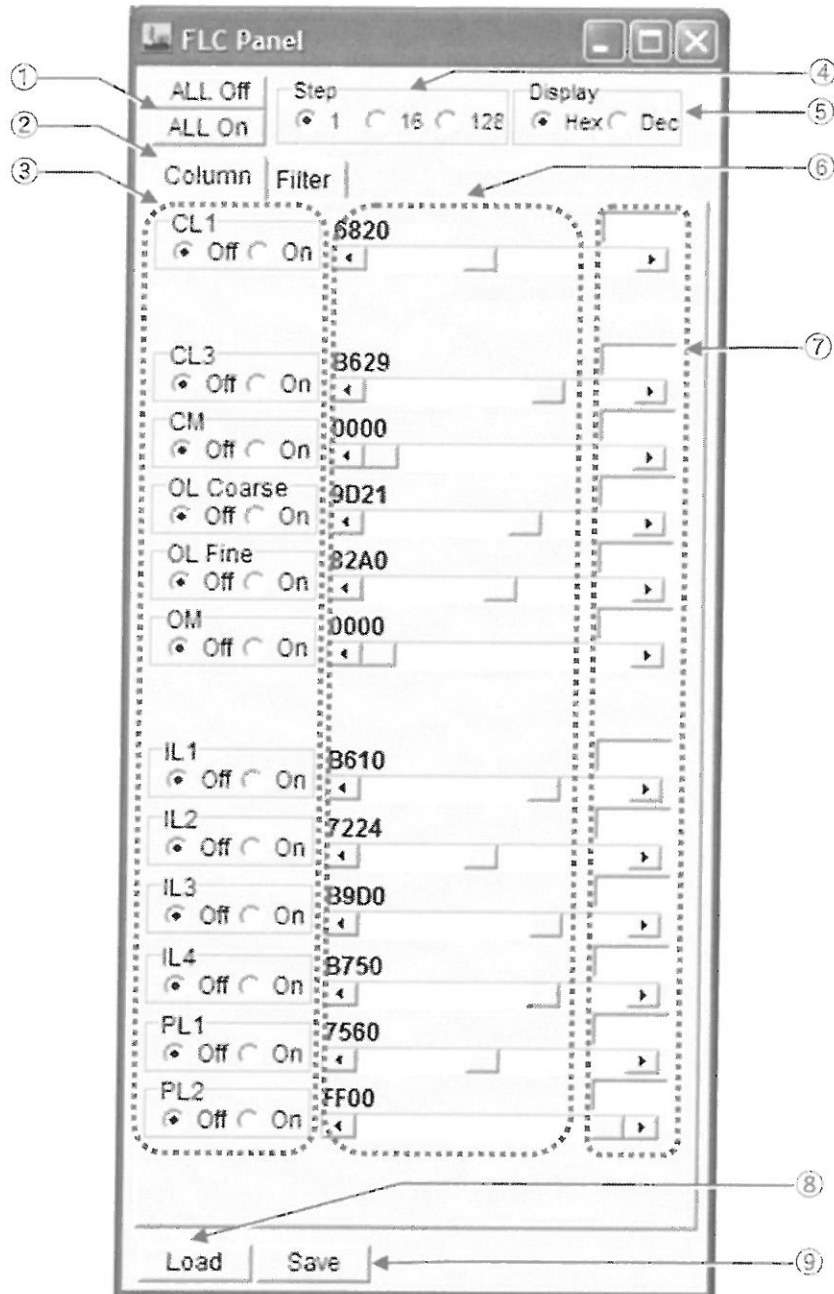

Fig. 4.59 FLC Panel window (Column tab)
This window opens selecting the Free Lens Control in the Option menu in the TEM Controller menu bar (Fig. 4.20-①) (Fig. 4.59).